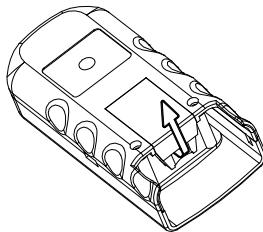

Fig.5 BATTERY REPLACEMENT
- (. Remove battery compartment cover (see Fig.5).